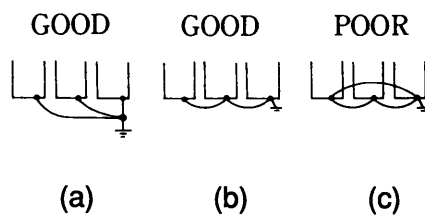

Fig. 3 Grounding of Three VS-606PB3 Units
- (1) Ground resistance should be  $100\Omega$  or less.
- (2) Never ground VS-606PB3 in common with welding machines, motors, or other large-current electrical equipment, or a ground pole. Run the ground lead in a conduit separate from leads for large-current electrical equipment.
- (3) Use the ground leads which comply with AWG standards and make the length as short as possible.
- (4) Where several VS-606PB3 units are used side by side, all the units should be grounded as shown in (a) or (b) of Fig.3. Do not form a loop with the ground leads.